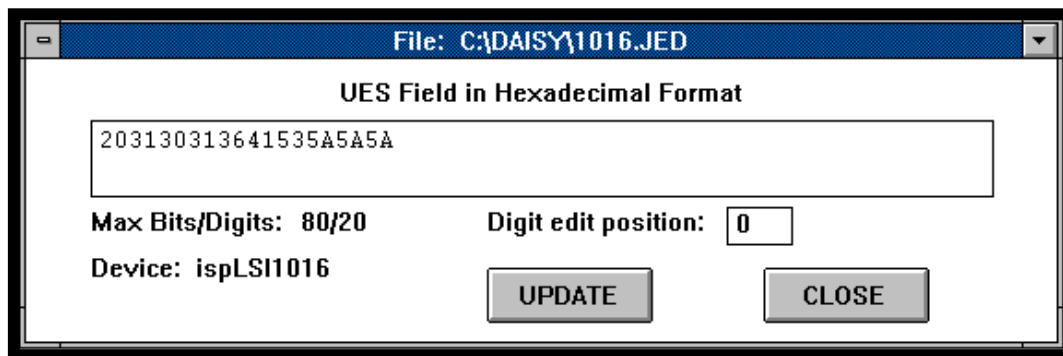

Figure 3-21. JEDEC File with UES Dialog Box
2. Select a .jed file. Click **OK**. The UES dialog box appears (Figure 3-21).